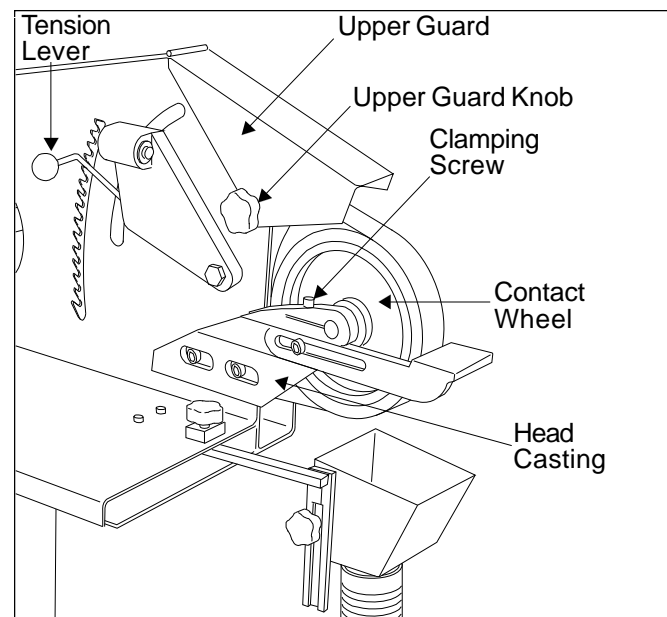

Figure 5: Replacement of Contact Wheel
1. Refer to Figure 5. Lower the tension lever to release belt tension.